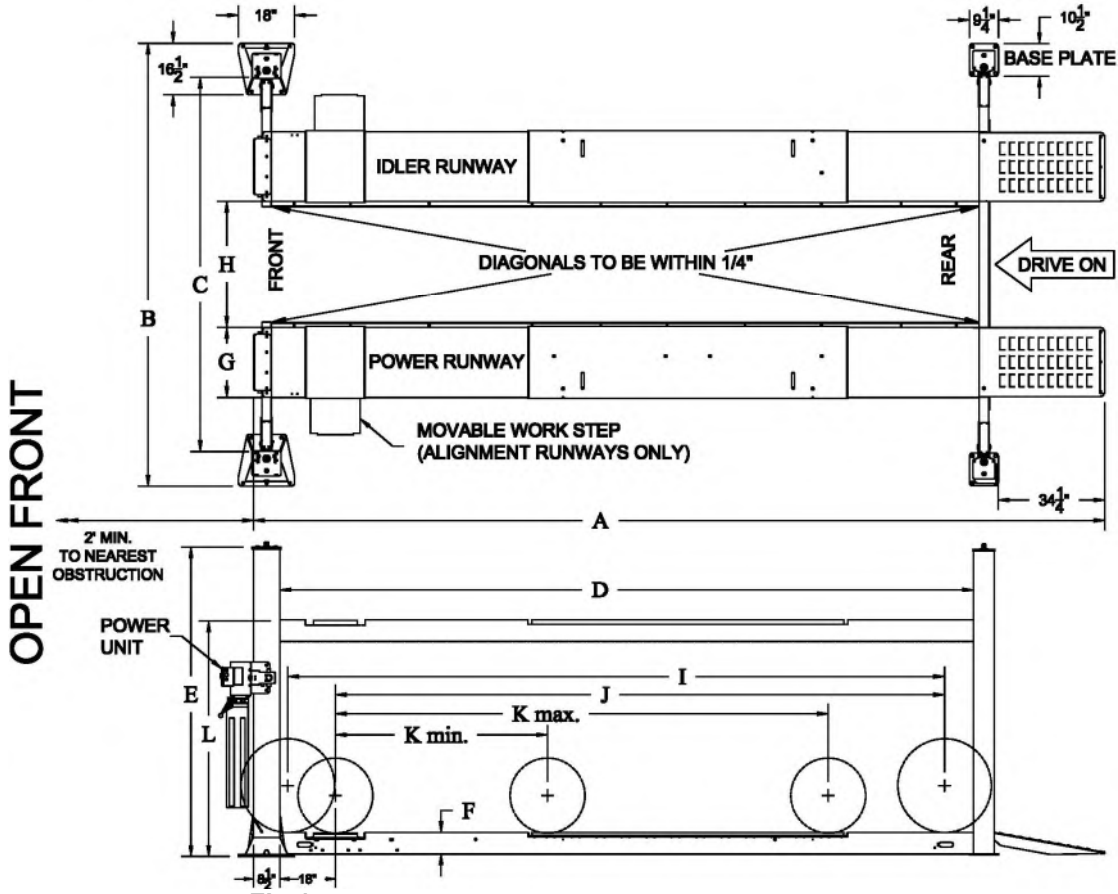

Fig 1 – General Specifications and Service Bay Layout
- 1) Layout the service bay according to the architect's plans or owners instructions (**see Fig 1**). Be certain that the proper conditions exist, **see page 4**.